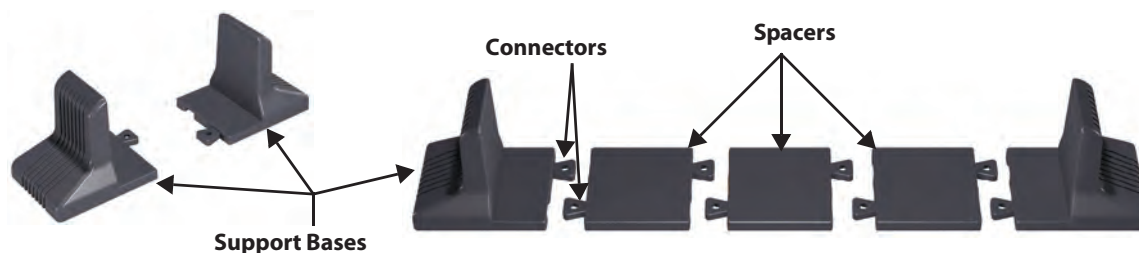

Figure 4: Support bases
1. Take out support bases from the accessories (see Figure 4).
3. Connect the spacers and the support bases as shown in Figure 4. Each S4K2U-5C needs two assembled support bases, one in the front and one in the rear.